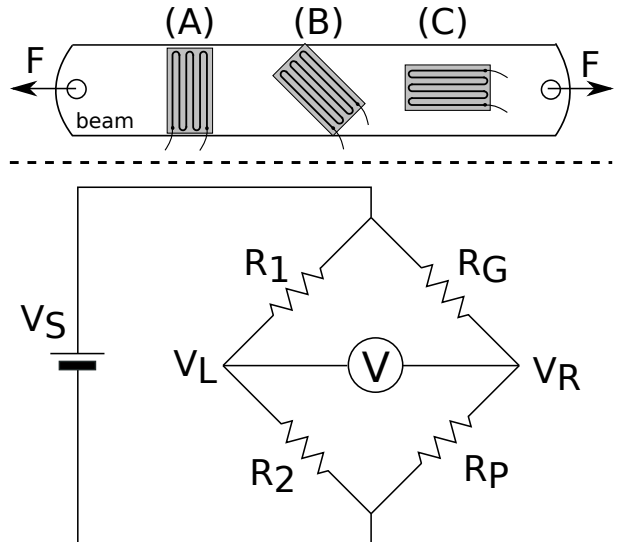

Figure 1: Strain gauge and Wheatstone bridge
A simple thin-film 1-dimensional strain gauge of initial resistance R_G of gauge factor 2 is attached to a metal beam. The gauge is incorporated into a Wheatstone bridge circuit as illustrated in Fig. 1. The fixed values of the resistors R_1 and R_2 are 2Ω and 5Ω respectively. A 9 Volts battery (V_S) powers the circuit. The adjustable resistance R_P is set to 3Ω and the bridge is balanced (i.e. the voltage meter between V_L and V_P shows zero).
1. Look at the upper part of Fig. 1. In which position, (A), (B) or (C) should the gauge be fixed to the beam?